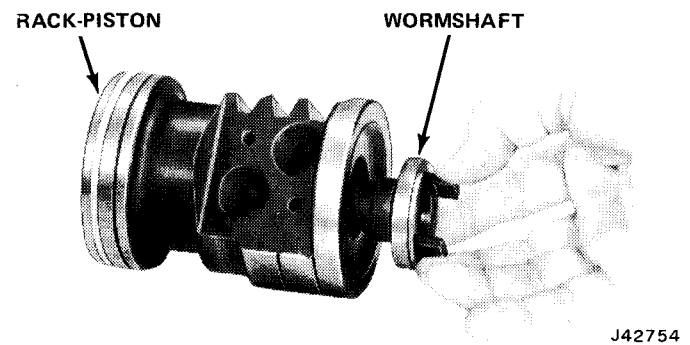

Fig. 11-83 Installing Wormshaft
(3) Install wormshaft in rack-piston as shown in figure 11-83.